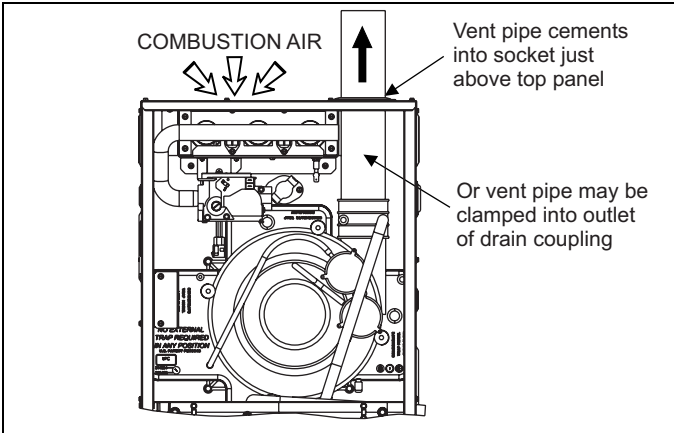

FIGURE 36: Combustion Airflow Path Through The Furnace Casing
- 2. **AMBIENT COMBUSTION AIR:** Combustion air is supplied from the area surrounding the furnace through openings in the furnace casing. The combustion air and the vent pipes are not terminated in the same atmospheric zone. Refer to Figure 21 for vent terminations. Refer to "Ambient Combustion Air Supply" for proper installation. Refer to Figure 36.